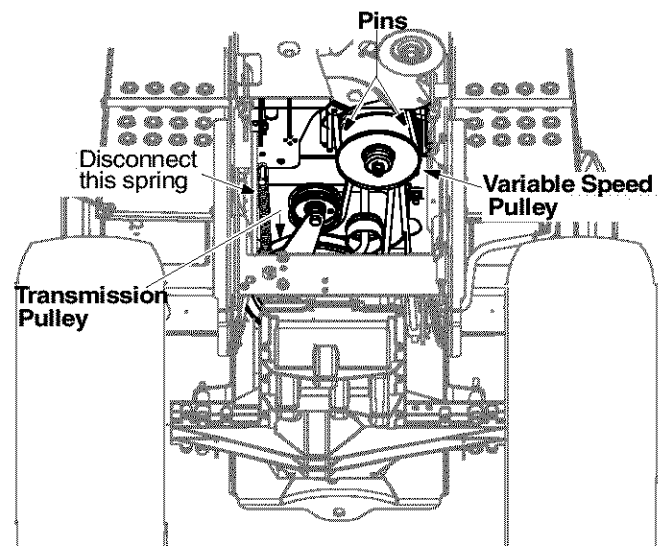

Figure 30
- Remove the two pins which act as belt keepers by the variable speed pulley. For the location of the variable speed pulley, see Figure 30.
- Disconnect the spring which secures the idler pulley to the frame. See Figure 30.